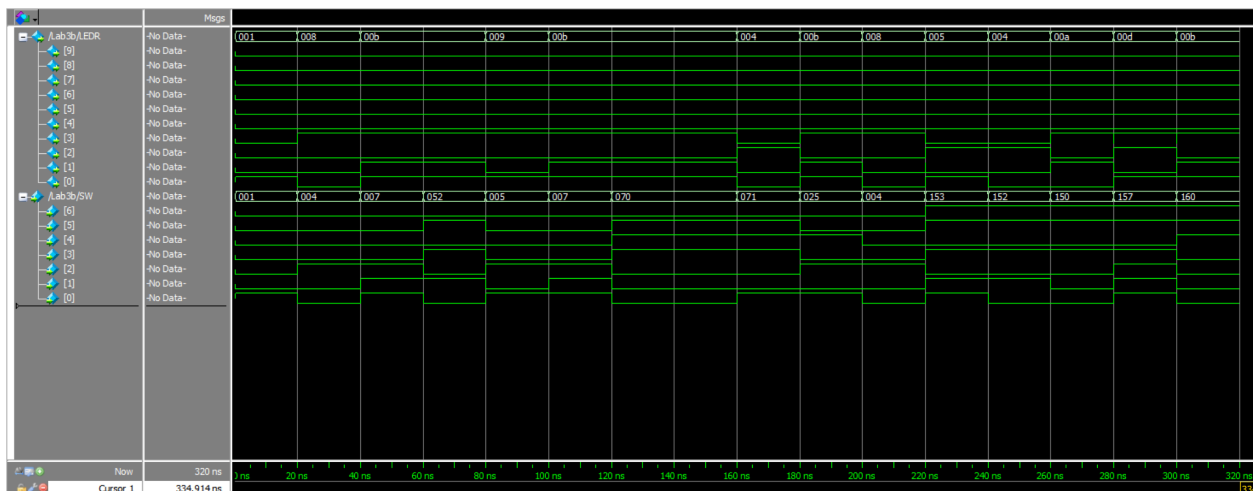

Figure 8: Ripple Carry using Full Adder Waveform
- After debugging and compiling the circuit, I simulated 15 unique inputs and recorded the resulting waveform in *Figure 8*. I then downloaded the circuit to my DE10-Lite Board to verify its behavior.